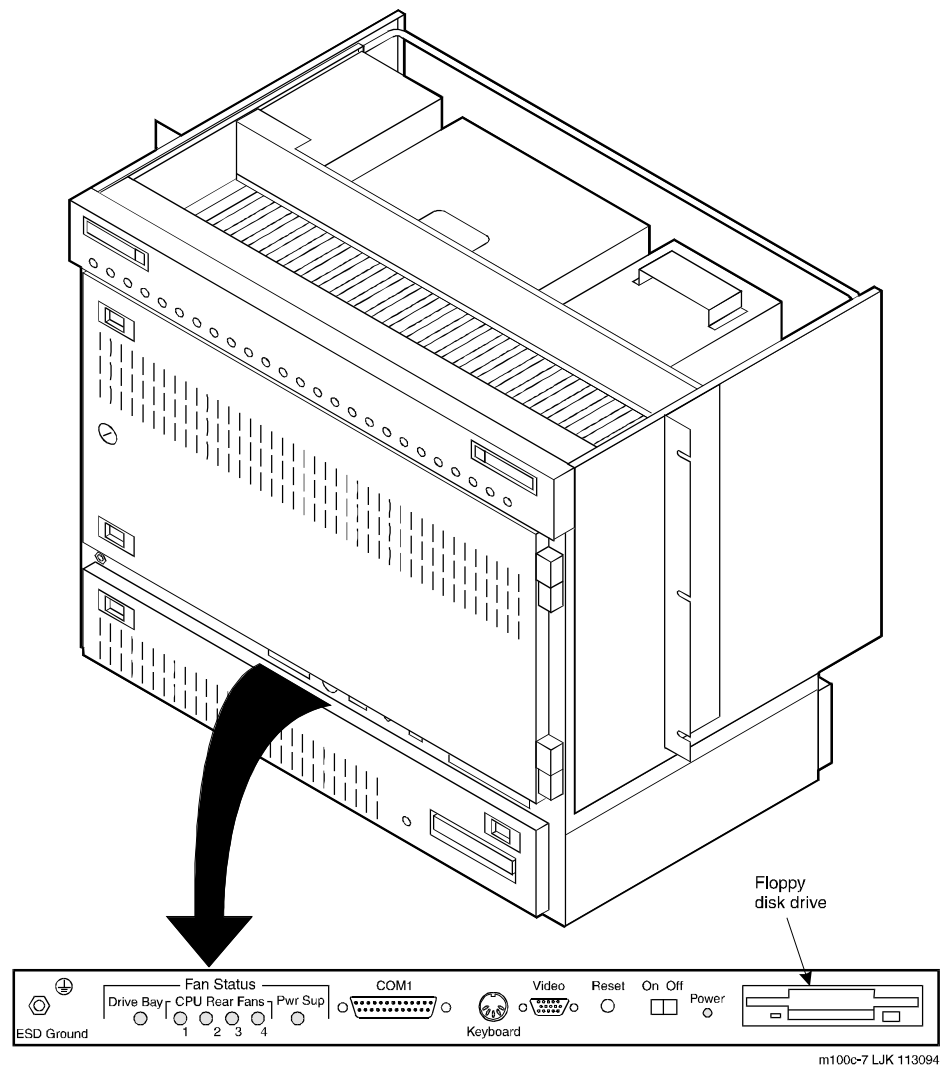

Figure 4-5. MAP/100C Front View
4. Turn off the power switch on the lower front of the MAP/100C (Figure 4-5).
1. Loosen the 1/4-turn latch on the MAP/100C front door (Figure 4-5).
2. Disengage the slide latches on the left side of the door (Figure 4-5) by pushing them toward the center.
1. Disengage the slide latches on the left side of the door (Figure 4-5) by pushing them toward the center.
3. Turn on the power switch on the lower front of the MAP/100C (Figure 4-5).